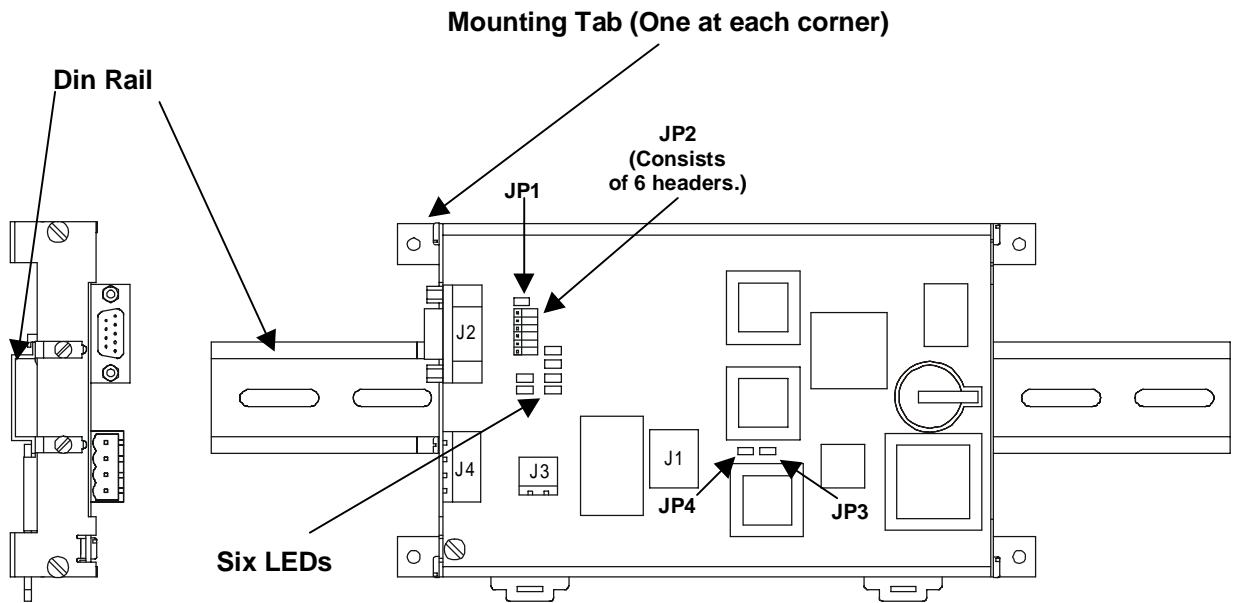

Figure 8.6 – Installing GEN251
**Note: Be sure to configure the jumpers on the GEN250 card before installing it in the drive. See Figure 8.6 (for location of jumpers) and Section 7.3.**
**Note:** Be sure to configure the jumpers on the GEN251 card before installing it. See Figure 8.6 (for location of jumpers) and Section 7.3.
2. Mount the GEN251 assembly onto the DIN rail. (Figure 8.6.)